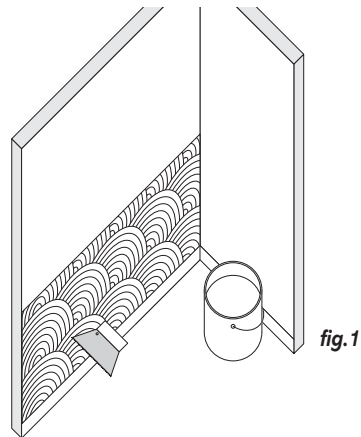

fig.1
- Place the panels against their respective wall sections and check for alignment against mouldings, skirting and floors (fig.1).
- Spread the glue over the entire wall surface marked out earlier (fig.1). Applying it to the wall is easier than applying it to the panel for onsite environments and avoids getting dust on the adhesive during the glue's open-time phase.
- Use a chamfering tool to cut a chamfer between the two panels (fig.1).